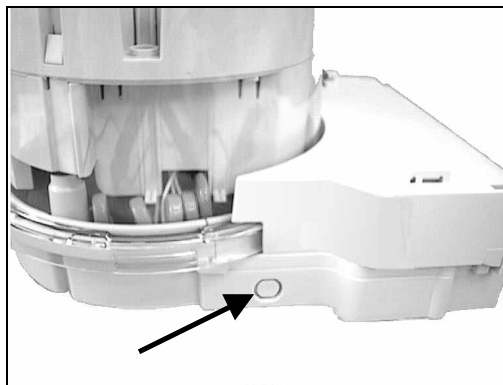

**Figure 9 : Check "RS" box**
7. On the right side of the nameplate place an "X" in the box marked "RS" and replace the cover. See Figure 9.